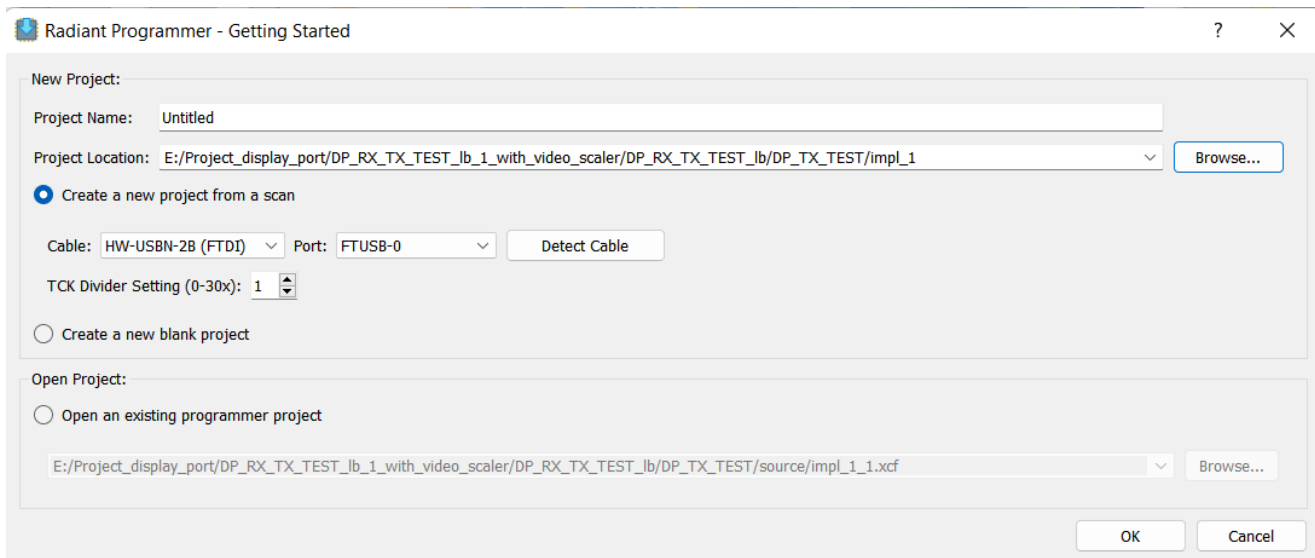

Figure 3.16. Radiant Programmer Dialog Box
- Click on the windows button, search and open the **Lattice Radiant Programmer** software. It opens a dialog box as shown in Figure 3.16 and select the project name, location and click on **OK**.